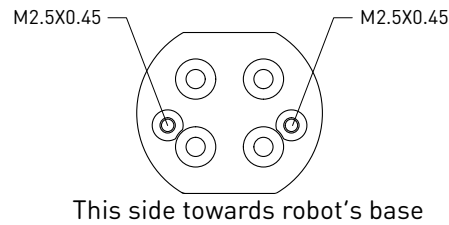

Figure 6: Proper adapter plate orientation (when all joints are at zero degrees)
2. Attach the adapter plate using the four M3X0.5X8 Torx flat head screws provided. Make sure to install the plate in the proper orientation, as shown in Figure 6.